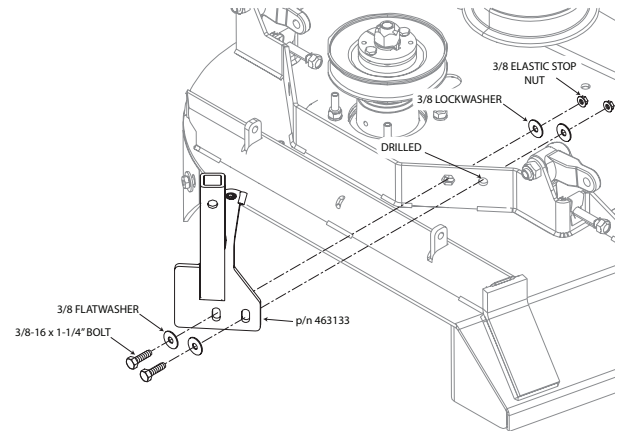
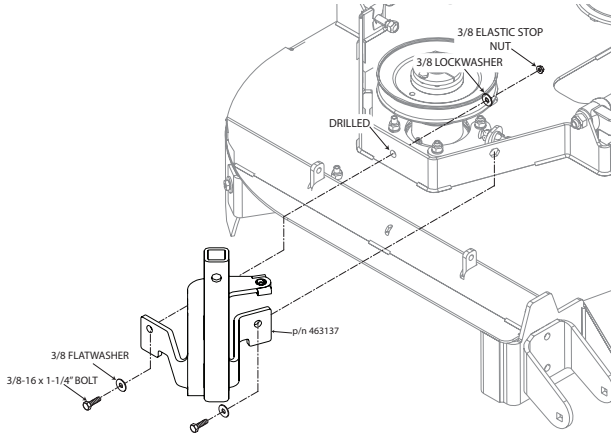

Figure 2-4. Blower Mounting Post Installation (48V)
Figure 2-6. Blower Mounting Post Installation (61V)
- Install the blower mounting post to the deck using 3/8-16 x 1 1/4" bolts (p/n 04001-32), 3/8 flatwashers (p/n 04041-07), 3/8 lockwasher (p/n 04030-04), and 3/8-16 elastic stop nut (p/n 04021-09). Do not fully tighten the hardware at this time. See Figure 2-4 through Figure 2-6.